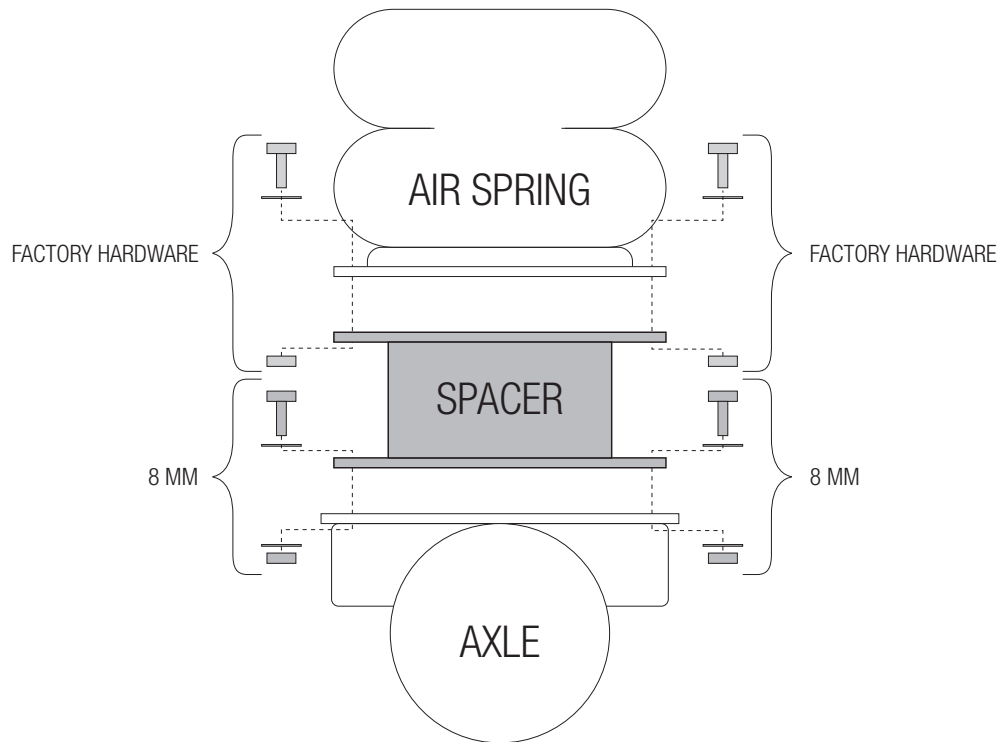

Figure 3
11. AIR SUSPENSION ONLY – Insert the rear air spring spacer. Secure at the bottom using the supplied 8mm bolts, nuts, and washers. Secure at the top re-using the factory hardware (fig. 3).